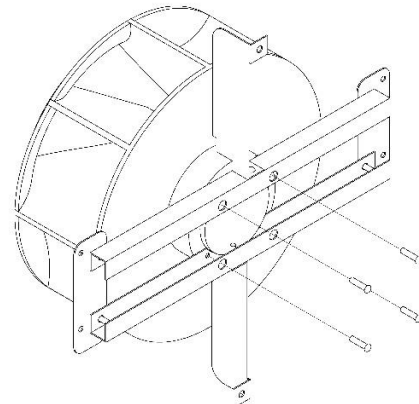

Figure 22
7.) Place fan motor with the back side face up on work surface. Remove (4) screws holding fan motor to motor bracket using an Allen wrench. See Figure 22.
9.) Place new fan motor with the back side face up on work surface. Insert (4) screws holding fan motor to motor bracket. Tighten screws using an Allen wrench. See Figure 22.